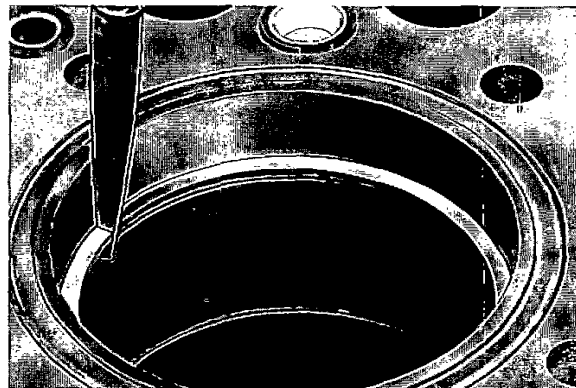

Fig. 56. Checking the piston ring gap
Check the piston ring gap (fig. 56). When measuring, push the ring down **below the lower turning point** using a piston. Replace the piston rings if the gap is 1.5 mm (0.059") or more.
6. Check the piston ring gap in the cylinder bore (fig. 56) and check the piston ring clearance in the piston ring groove.
Liner wear is determined most easily by placing a new piston ring in the upper turning position (fig. 56) and measuring the piston ring gap. This is then compared with the piston ring gap below the lower turning point. Divide the difference between the two measured values by 3.14 to establish the amount of wear.